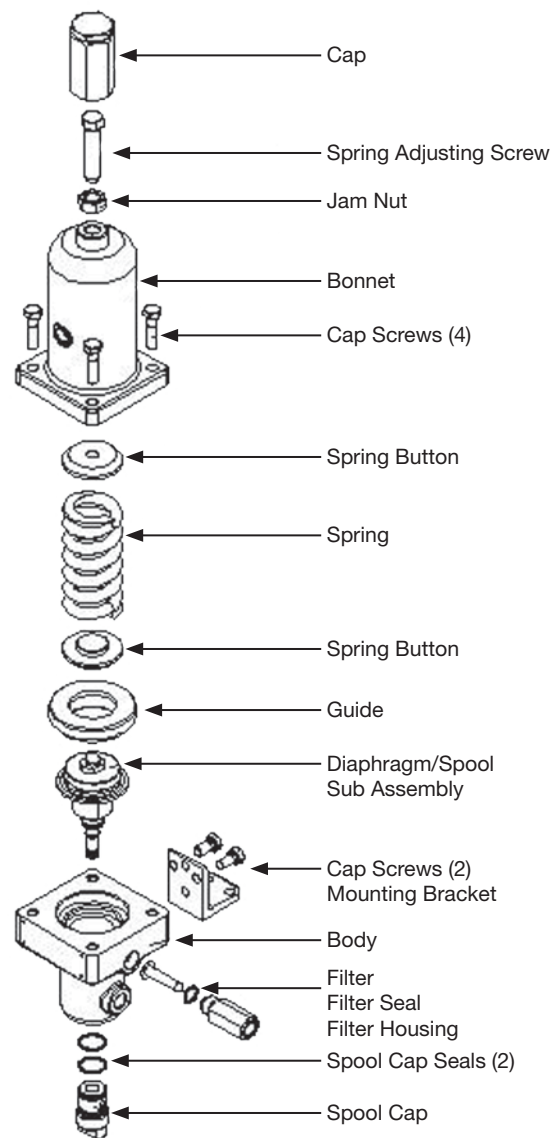

Figure 7.7
1. Lay out the parts in sequence as shown in Figure 7.7, on a clean and well-lit work area.
5. Lubricate the seals in the spool sub-assembly and insert into the body bore, as shown on Figure 7.7. Spool extension should fit into the hole of the spool cap. Apply a light amount of pressure on top of the internal sub-assembly to check for bottoming of seat seal #2 to the spool cap seat.
11. Insert the filter; flange first, into the inlet port on the body. This port is closest to the body flange as shown in Figure 7.7. Install the filter seal over the filter and into the inlet port, bottoming on the filter flange inside the port.